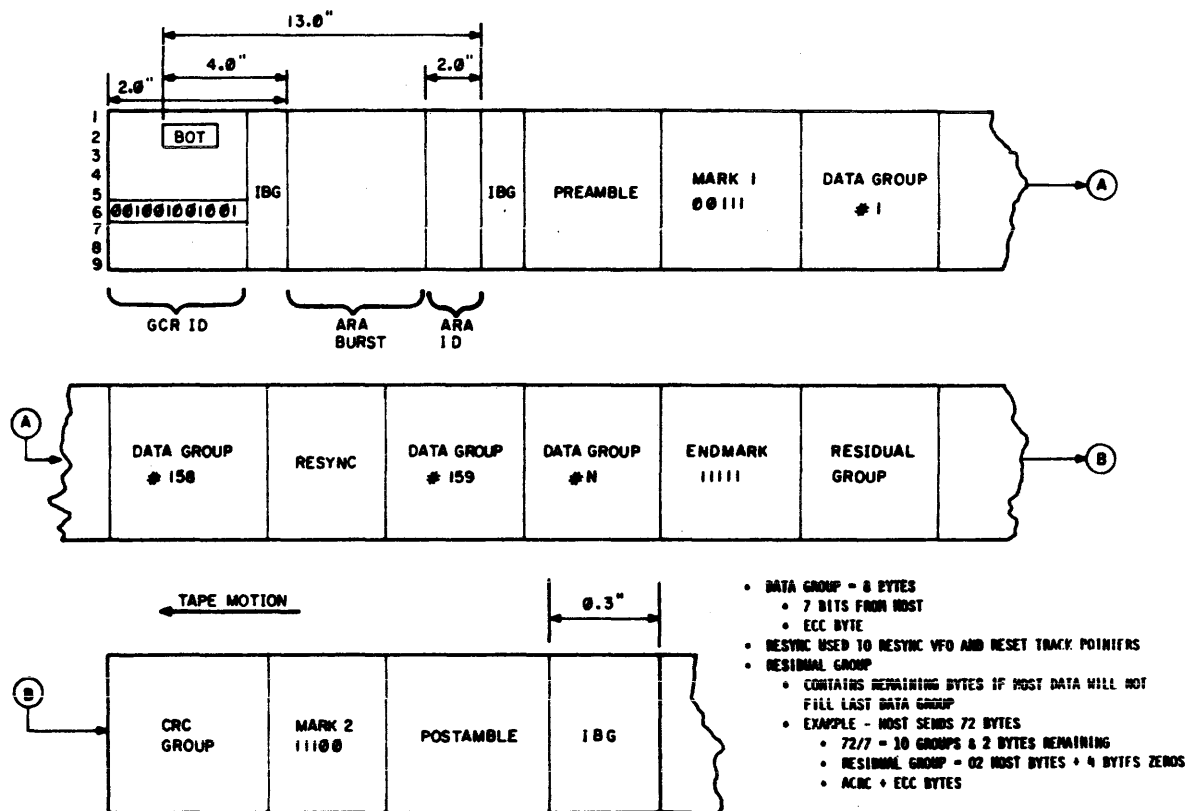

Figure 4-29. GCR TAPE FORMAT
4.9.3.2 GCR Data Block Format - The GCR data format requires not only preamble and postamble patterns, but also data conversion into groups, for each of which an Error Correcting Code (ECC) clearance is generated. Also, Cyclic Redundancy Checks (CRC's) and Auxiliary Cyclic Redundancy Checks (ACRC's) are added to the data to facilitate detection and correction of errors. Resynchronizing bursts are added for transfers over 1106 bytes to enable the read detection logic to resynchronize (see Figure 4-29).